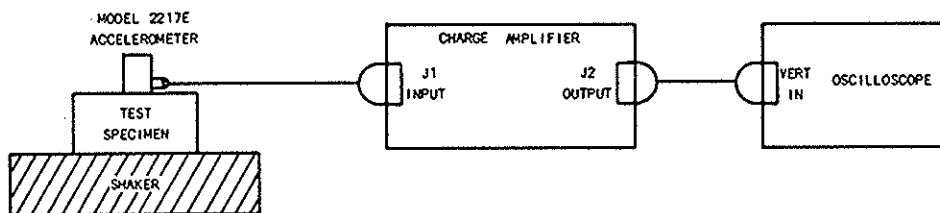

Figure 3-3. Typical Application Test Set-Up.
- a. Connect equipment as shown in Figure 3-3 with the transducer mounted to test specimen in the axis of interest. Endevco cables are strongly recommended to minimize cable-related errors which might reduce measurement accuracy. The cable capacitance does not affect gain accuracy of the charge amplifier.